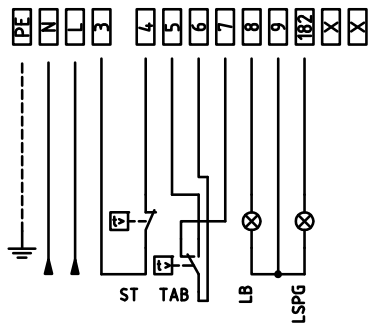
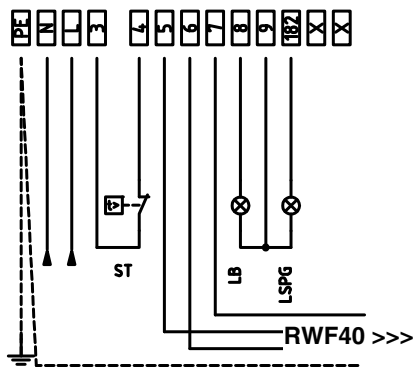

Fig. 24: Progressive burners
Fig. 26: Fully modulating burners
- 1 Connect the signal conductors from the boiler to the burner, as for the next elements (Fig. 24 - Fig. 26):
- 2 Connect the signal conductors from the burner to the boiler, as for the next elements (Fig. 24 - Fig. 26)